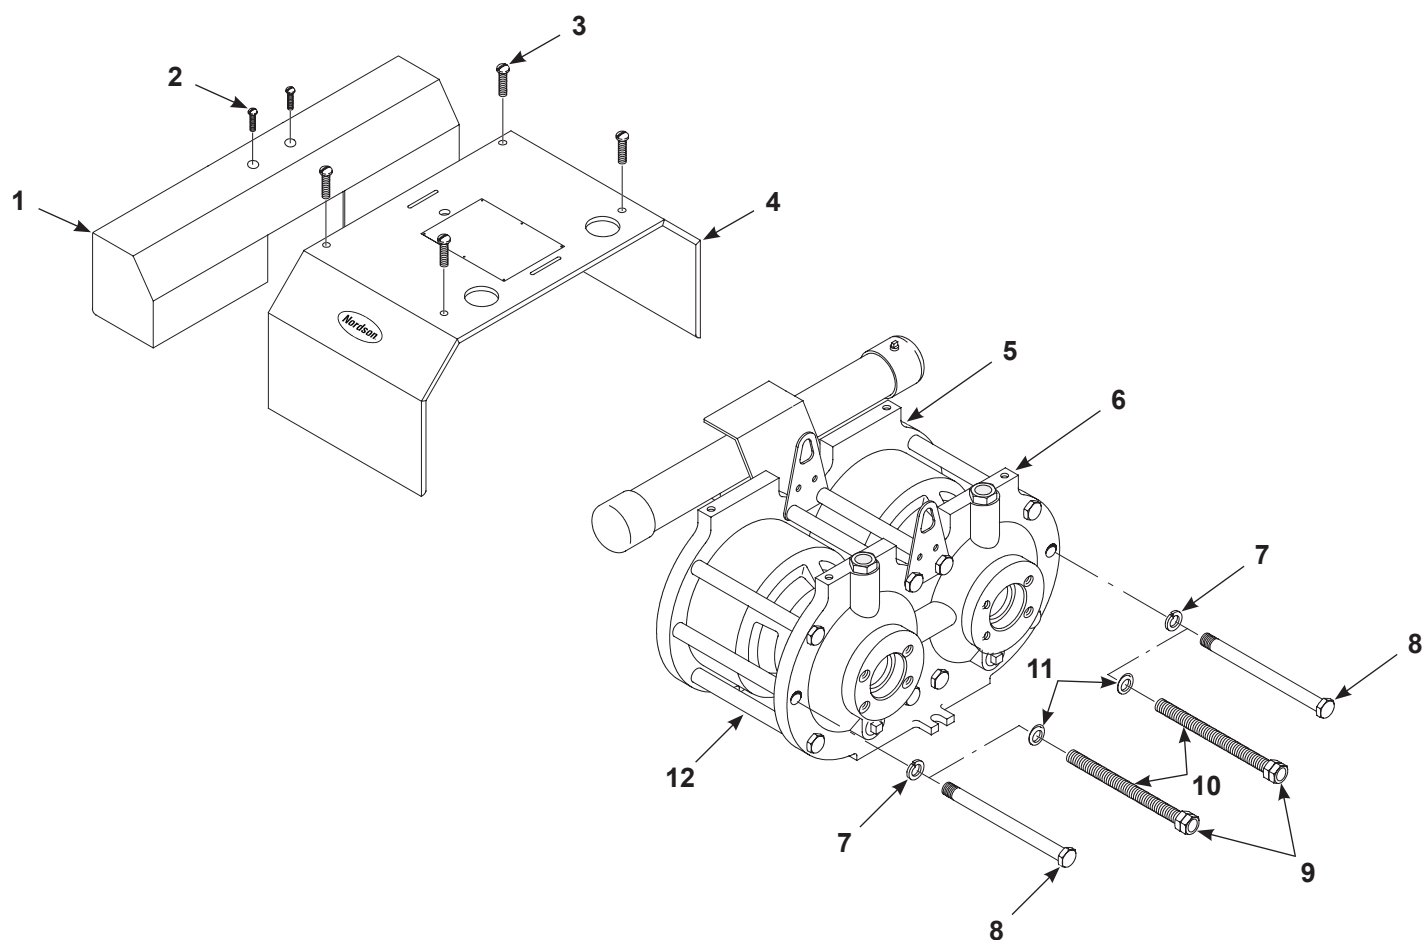

Figure 6-6 Air Motor Disassembly
1. See Figure 6-6. Remove the screws (2, 3) securing the cover plate (4) and accumulator cover (1).
3. Remove two screws (8), lock washers (7), and spacers (12) from the solvent chamber (6), as illustrated. Do not remove the remaining screws at this time.
4. Thread the spring removal studs (10) and flat washers (11) through the solvent chamber and into the upper head (5). Tighten the nuts (9) until snug.
5. Remove the remaining screws (8), lock washers (7), and spacers (12) that secure the solvent chamber to the upper head.